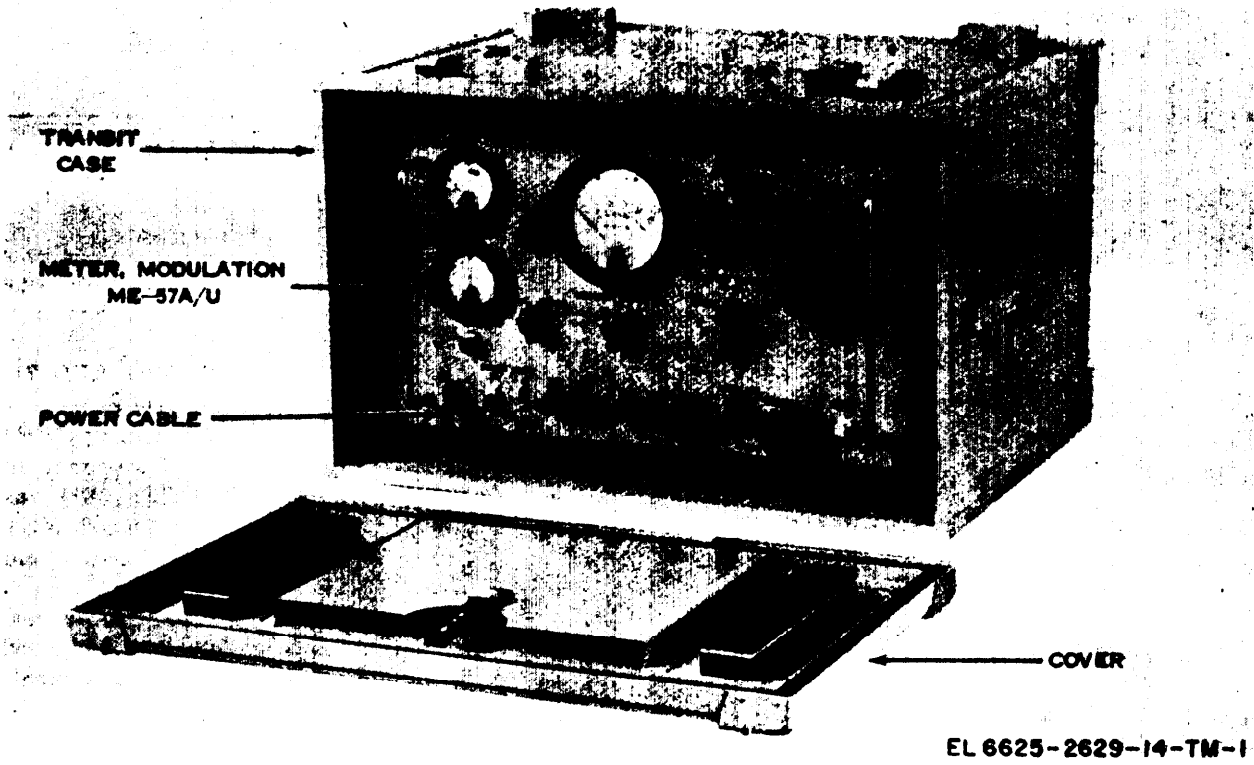

Figure 1-1. Meter, Modulation ME-57A/U
a. This manual describes Meter, Modulation ME-57A/U (fig. 1-1) and provides instructions for operation, organizational maintenance, direct support (DS) maintenance, and general support (GS) maintenance. Instructions are provided for the operator and the organizational repairman for installation, operation, preventive maintenance and replacement of parts available at organizational maintenance. Circuit functioning is included for general support maintenance, together with instructions appropriate to that category of maintenance for troubleshooting, testing, adjusting, aligning and repairing the equipment and replacing maintenance parts. There are no maintenance functions for the ME-57A/U assigned to the direct support level.
The modulation meter (see fig. 1-1) consists of a panel-chassis assembly with a removable louvered dust cover. The dust cover is attached to the chassis with four captive screws at the rear. The equipment may be rack mounted in a standard 19-inch-wide equipment rack. All operating controls and connections are located on the front panel. The power cord is permanently attached to the chassis and a plug storage receptacle is provided at the lower right side of the front panel. The modulation meter is shipped in a metal transit case. The lid for the transit case has compartments for the running spares.